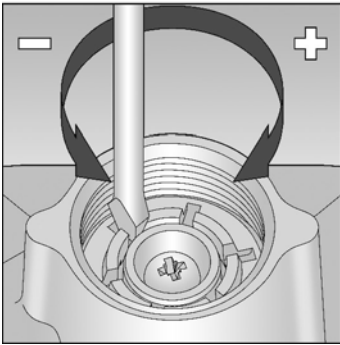

Fig. 12
3. Fully unscrew and remove top spring holder. See Fig. 12.
5. Screw spring holder back in place, ensuring that castellated spigot is uppermost in chimney. See Fig. 12.
10. Screw top spring holder back in place, ensuring that castellated spigot is uppermost in chimney. See Fig. 12. (If UPSS only ensure that spacer tube is firmly clamped).